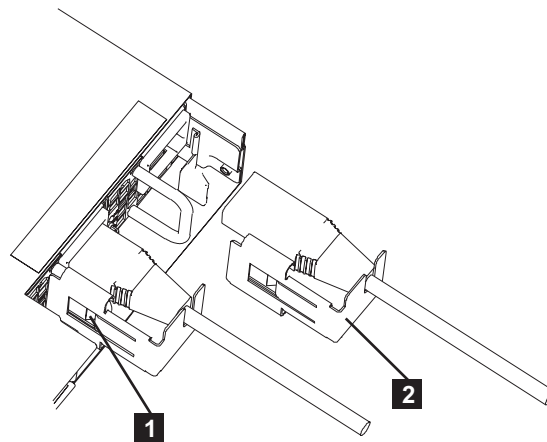

Figure 33. SAN Volume Controller 2145-CG8 cable-retention brackets
The cable-retention brackets install without tools, as shown in Figure 33.
2. Align the cable-retention bracket on the power cord so that the bracket is to the left side of the cord, as shown by **2** in Figure 33 on page 37.
5. Push the cable and the bracket into place, as shown in Figure 33 on page 37.